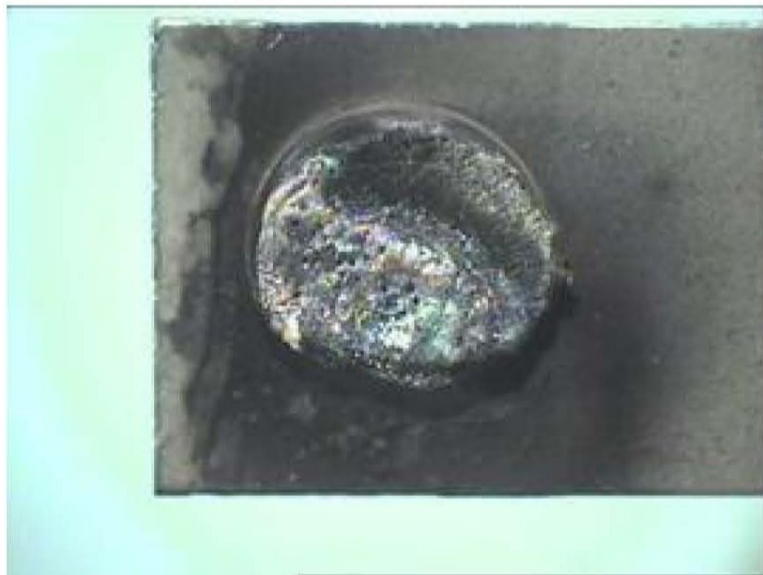

Figure 3. Strong erosion of the spring contact.
B) Strong erosion of the spring contact (Figure 3).